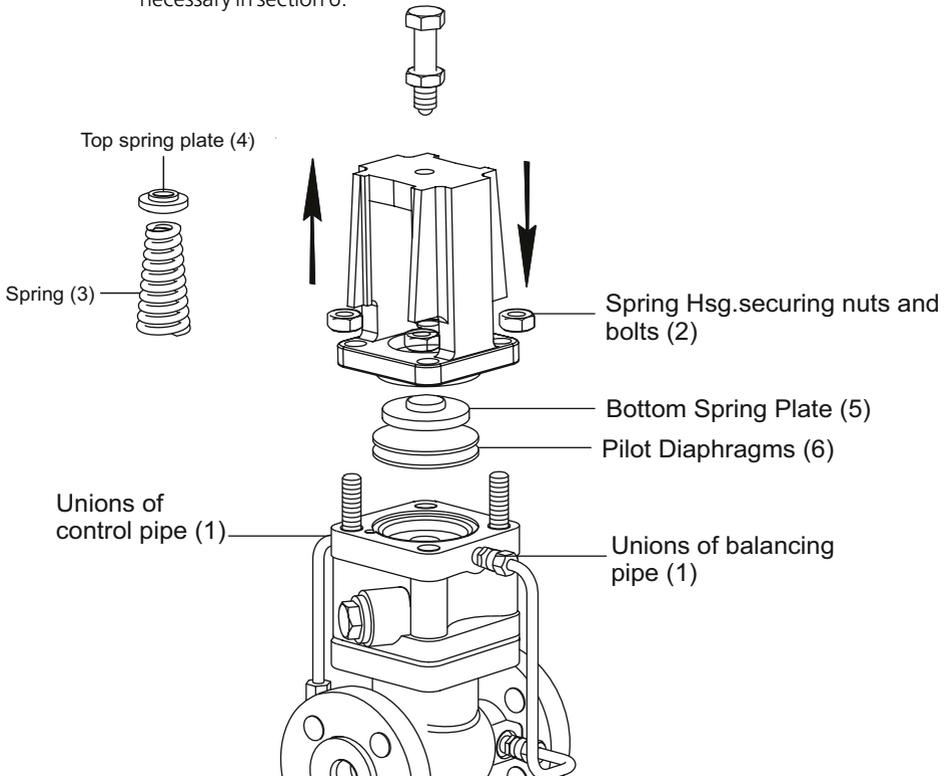

Figure 11 : Replacing/ Maintaining Pilot valve diaphragm
7.8. Procedure to renew the pilot valve diaphragms: (Refer to Figure 11)
7.10. Procedure to service or renew the main valve and seat: (Refer to Figure 11, 12 & 13)
For this section refer to figure 11